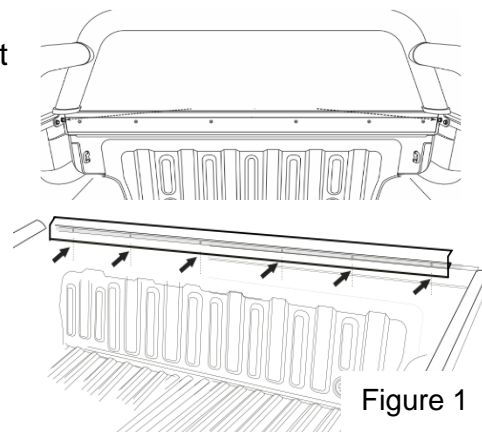

Figure 1
- In line with the existing rivets in the front rail, drill 6 holes into the lower section of the aluminium and into the top edge of the tub. The first hole from each end to be about 50mm from the end of the angle. (Fig. 1).